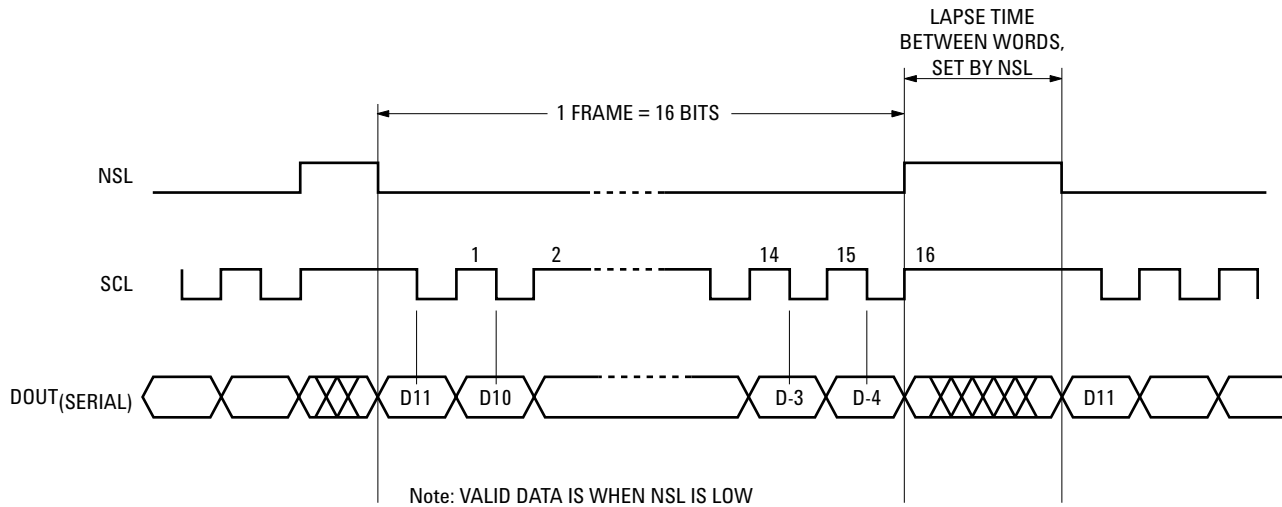

Figure 3. Timing Diagram
Valid data of DOUT should be read when the SCL clock is low. Please refer to timing diagram (Figure 3).
1. After powering up the unit using  $V_D = +5\text{ V}$  and connecting GND to ground, trigger input pins NSL and SCL using the timing diagram (Figure 3). NSL is a control pin for the internal shift register. NSL=1 is load mode while NSL=0 is shift mode for the shift register. When NSL=0 and combined with clock pulses, the serial Gray code will be shifted out to DOUT bit by bit per every clock pulse. Valid data of DOUT should be sampled at the falling edges of the clock pulses.